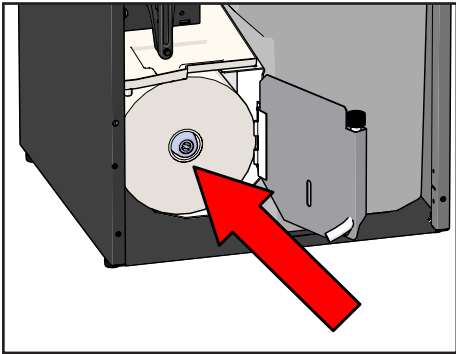
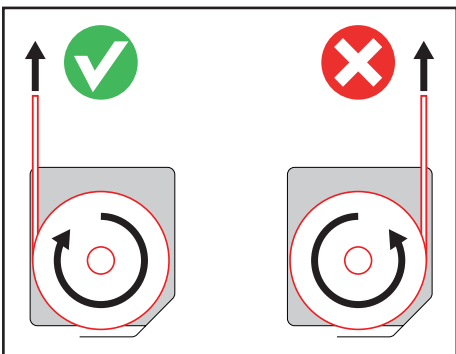

Figure 75. Insert a new filter roll
Figure 76. Right way of placing the roll
10. Insert a new paper filter roll in the paper holder (see Figure 75 en Figure 76).